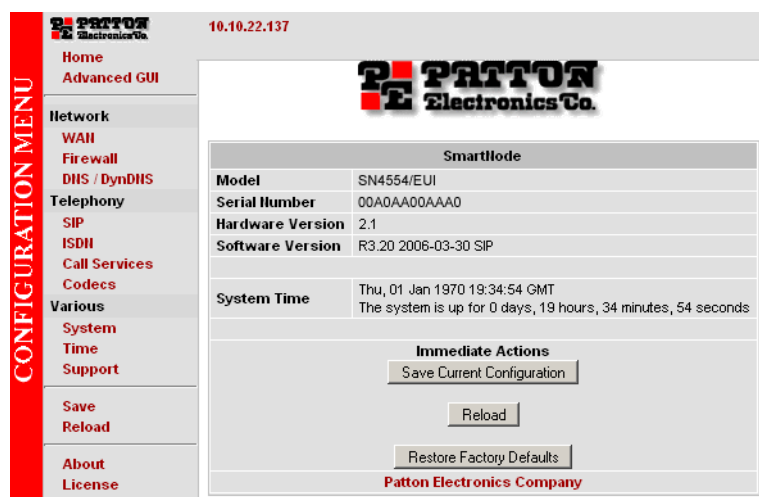

Figure 11. SN4554 home page
- Enter the username *administrator*. Do not enter a password. Instead simply click OK. Your web browser will display the SN4554 home page (see figure 11).